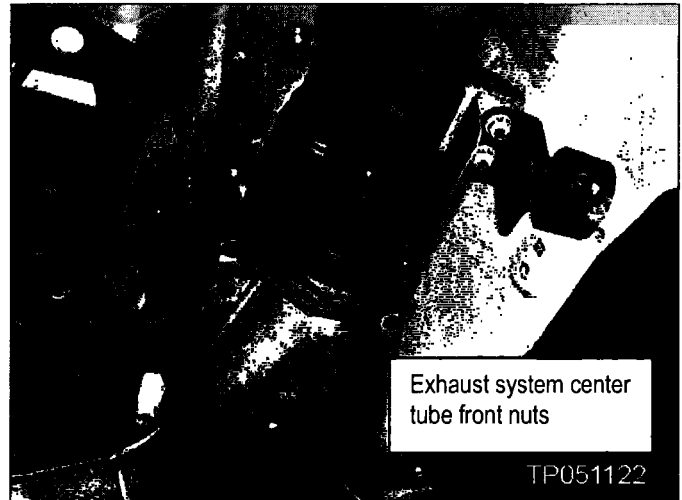

Figure 45
11. Remove and discard the exhaust system center tube front nuts (see Figure 45).